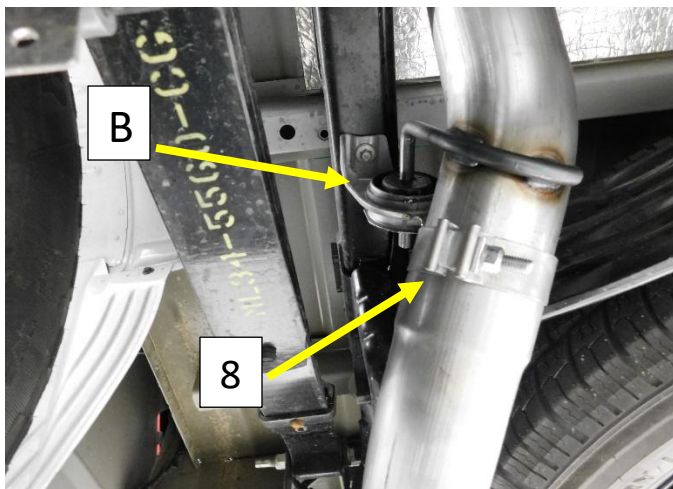

Figure.7
9. Install the frame hanger (B) on to the hanger rod just over the axle , Install the x2 bolts. **Fig.7**
10. Install a 3.5" band clamp (8) on to the expanded end of the tail pipe. **Fig.7**